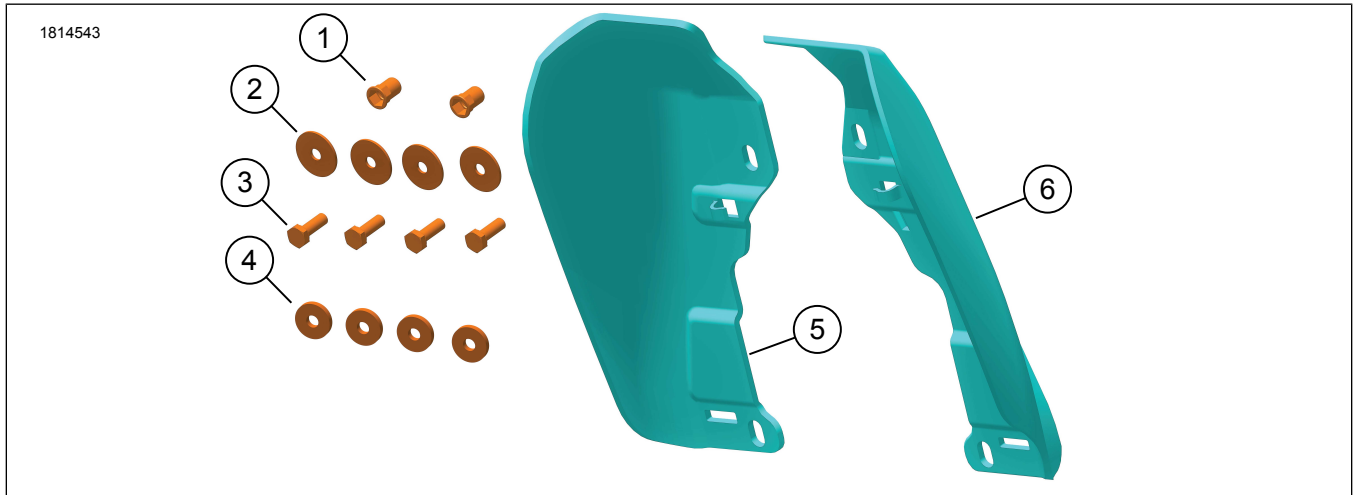

Figure 1. Kit Contents: Mid-Frame Air Deflector
- a. Figure 1 Install large washer (2) to screw (3).